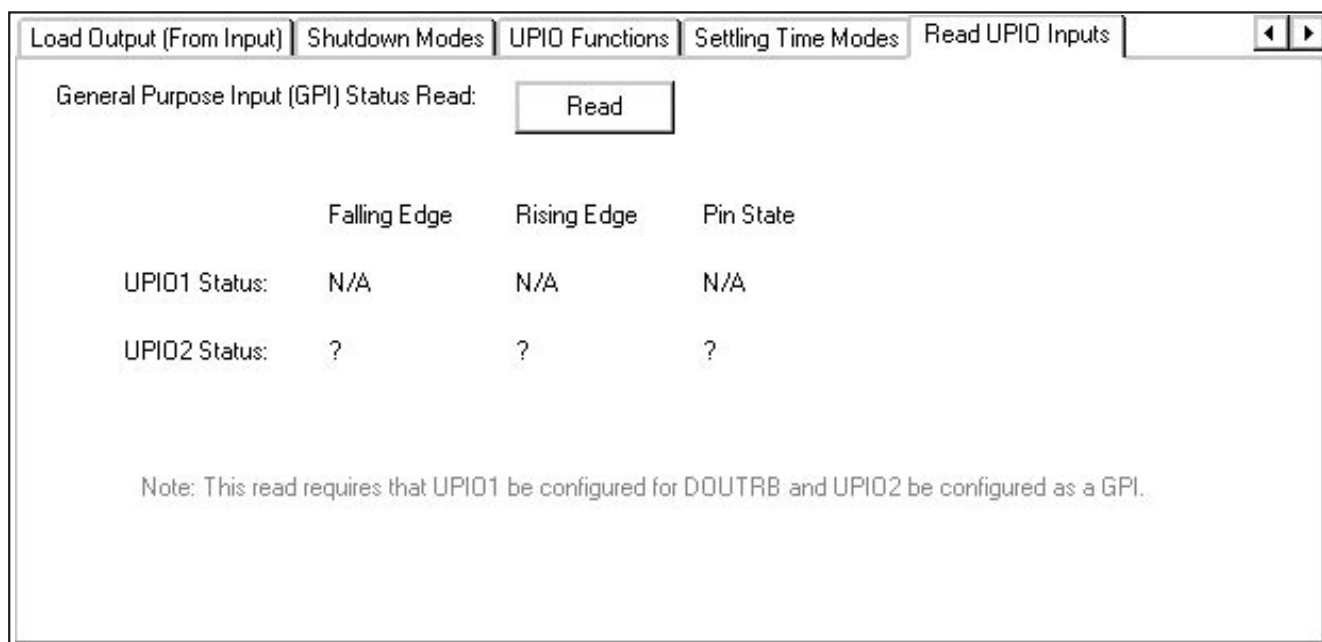

Figure 8. Read UPIO Tab
The **Read UPIO Inputs** tab, shown in Figure 8, allows the user to read the GPI status for UPIO2. Pressing the **Read** button tells the user whether a falling edge or rising edge has occurred since the last read as well as the current state of the pin.
**Problem 3:** Pressing the **Read** button in the **Read UPIO Inputs** tab gives incorrect status (see Figure 8).